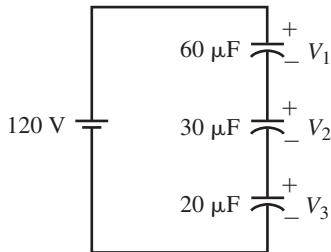

FIGURE 10-38
38. Use the voltage divider rule to find the voltage across each capacitor of Figure 10-38.
48. For the circuit of Figure 10-38, determine the energy stored in each capacitor.